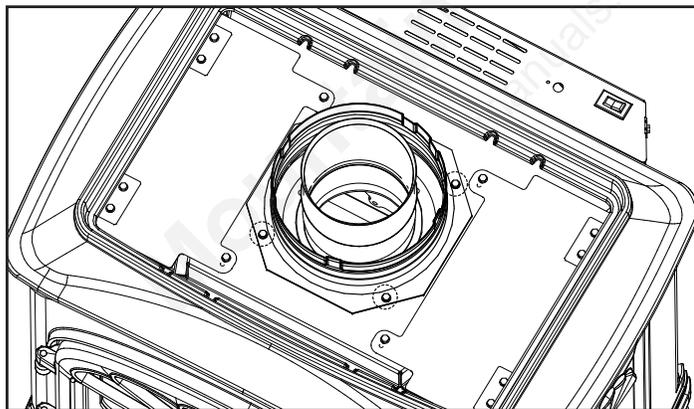

Figure 6.2
- Place rear access plate and gasket over top vent and attach with the four screws removed in Figure 6.2.